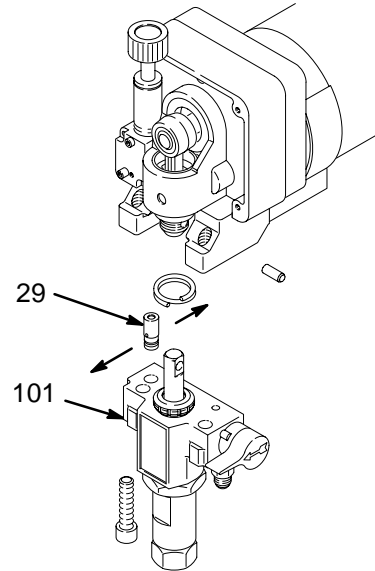

Fig. 25
6. Align the holes in the transducer as shown by the arrows in Fig. 25.
NOTE: See Fig. 25 for this procedure.